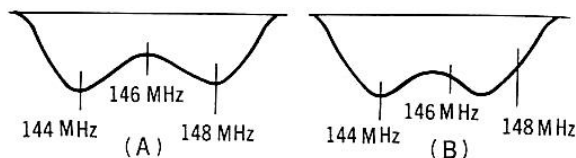

Figure 2
Next adjust the Piston Trimmers TC-5 and TC-6 for maximum deflection of the VTVM after setting the VFO dial to 144 MHz. Now slowly turn the VFO dial from 144 MHz to 148 MHz while noting the deflection changes of the VTVM, that is, the change in the minus grid voltages of V14 12BY7A. Adjustment is correct if the plotting of the VTVM movements results in a curve such as is shown in Figure 2, (A). If, however, the frequency band width is narrow as in Figure 2, (B) or in case it is too wide, the space between the primary
and secondary coils of L16 must be adjusted to obtain a curve as shown in Figure 2, (A).